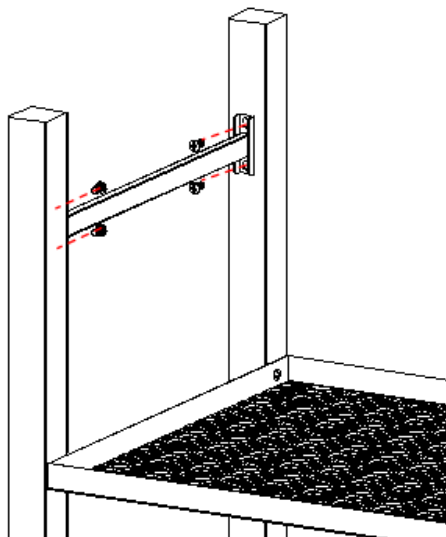

Fig. 5
*Locate:* Cart Right Bracket, (4) M6x12 bolts
*Procedure:* Attach the Cart Right Bracket to Right Rear Leg #1 and Right Front Leg #2 using (4) M6x12 bolts as shown as Fig. 5.